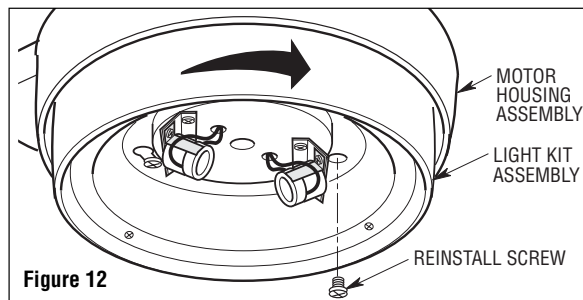

Figure 12
5. Engage the two key slots on the light kit assembly with two loosened screws in motor housing assembly. Rotate the light kit assembly clockwise to engage the two screws into both slots and tighten securely. Install the previously removed screw into the remaining hole of the light kit assembly, attaching it to the fan motor assembly securely (Figure 12).